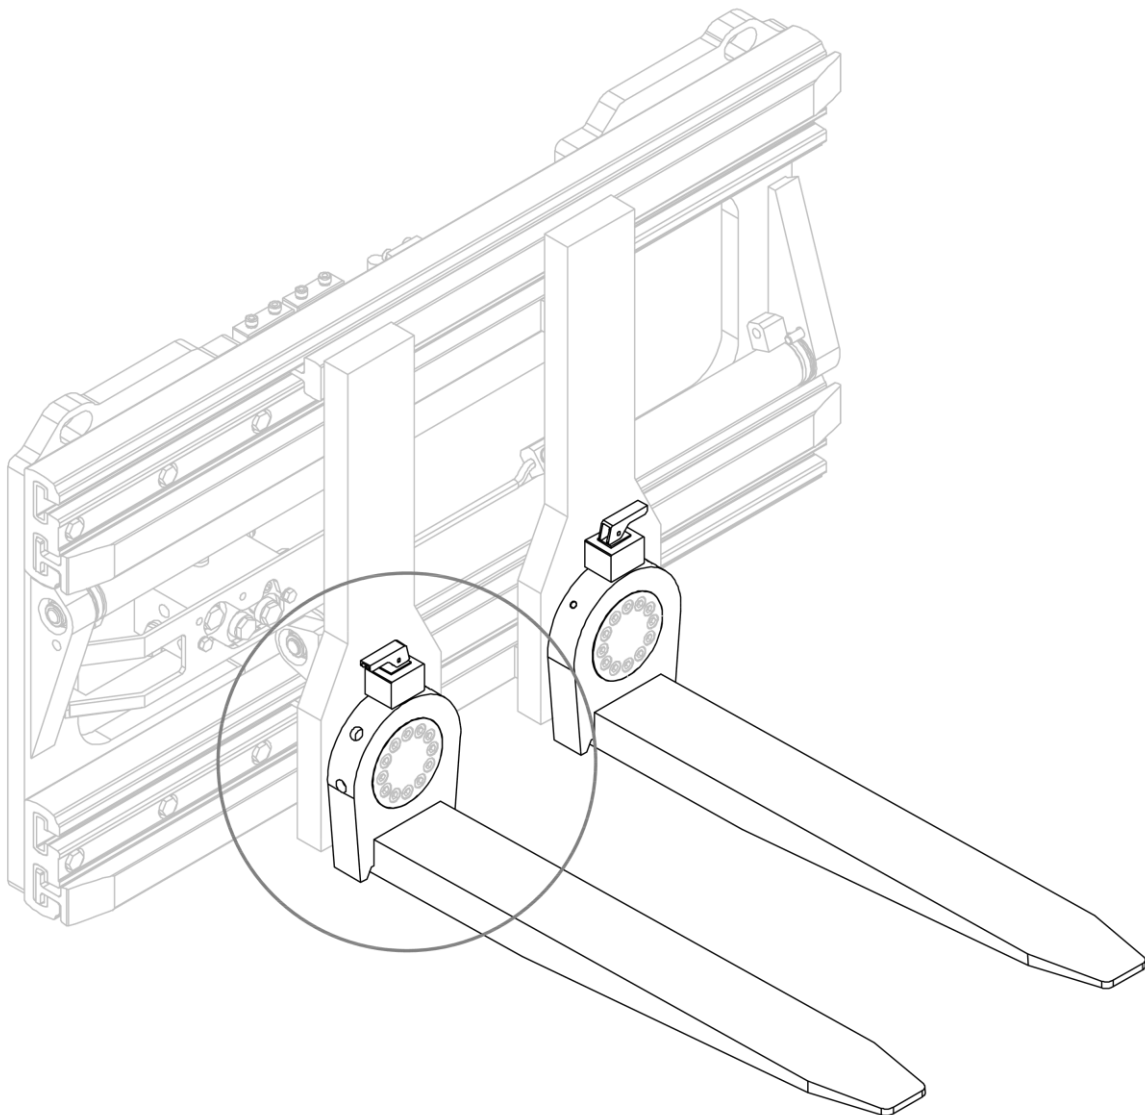
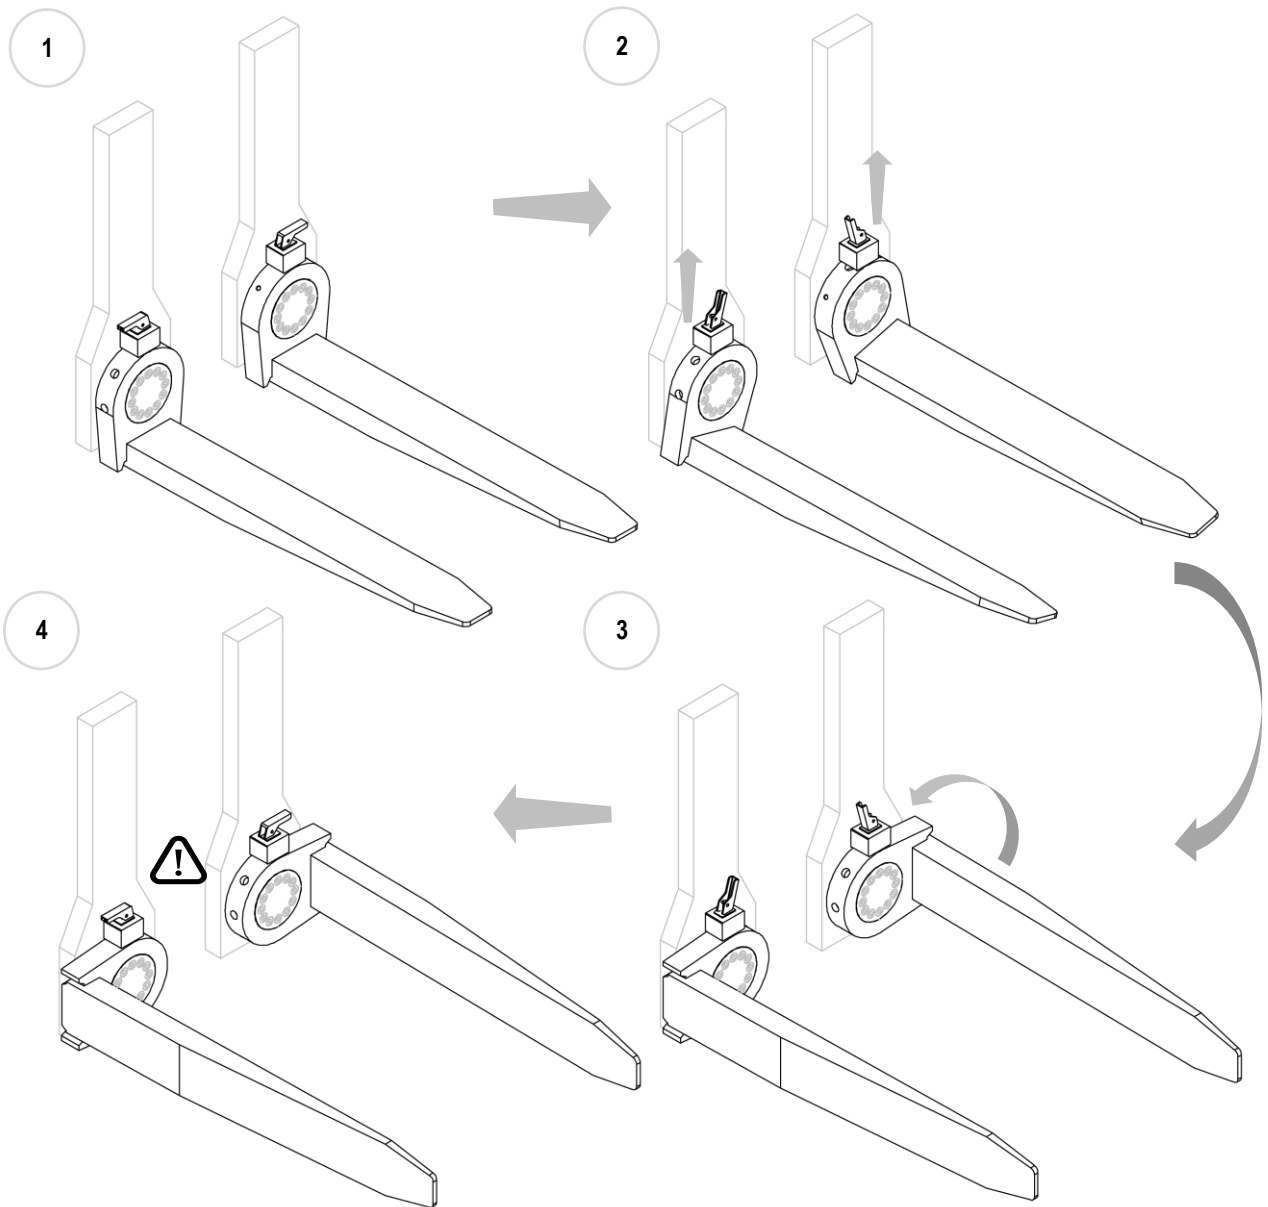

Figure 15
Figure 16
2. Use *Figure 15* and *Figure 16* as guides.